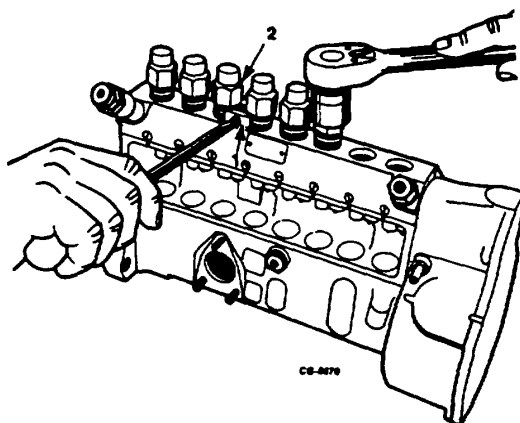

Figure 27. Removing Holder Clamps and Delivery Valve Holders
15. Remove delivery valve holder clamps and using a 7/8" socket, remove the holders (Figure 27).